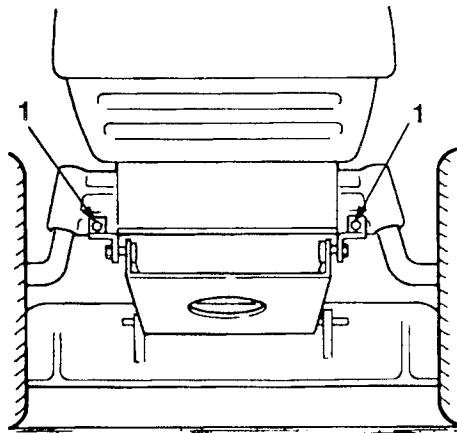

Figure 41
- Install the mower pivot mount brackets to the front axle with bolts and lock nuts (Fig. 41).